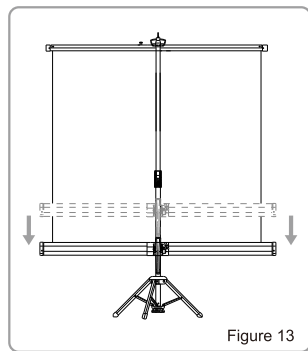

Figure 13
7. Use the plastic handle to adjust the height of the housing according to the viewers' angle. ( Figure 13 )